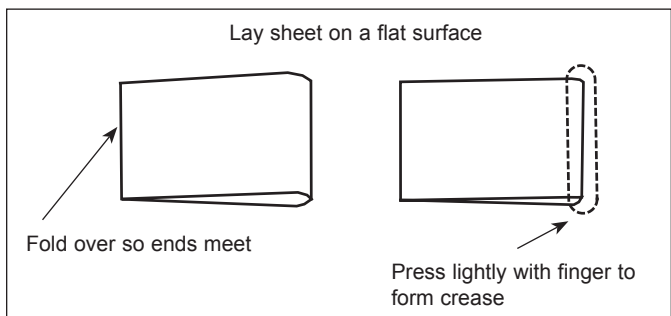

Figure 9. Folding Release Sheet
4. Fold a new Release Sheet in half, creasing the fold only with your fingers (Figure 9).